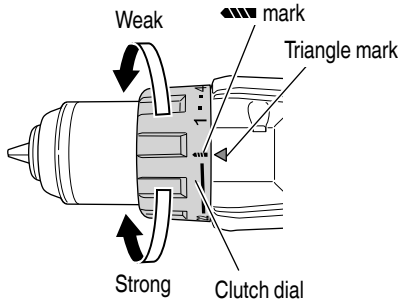

Fig. 12
6. Confirm the clutch dial position (See Fig. 12).
(2) Tightening torque indication (See Figs. 12 and 14)
- (3) Adjusting the tightening torque (See Figs. 12 and 14)